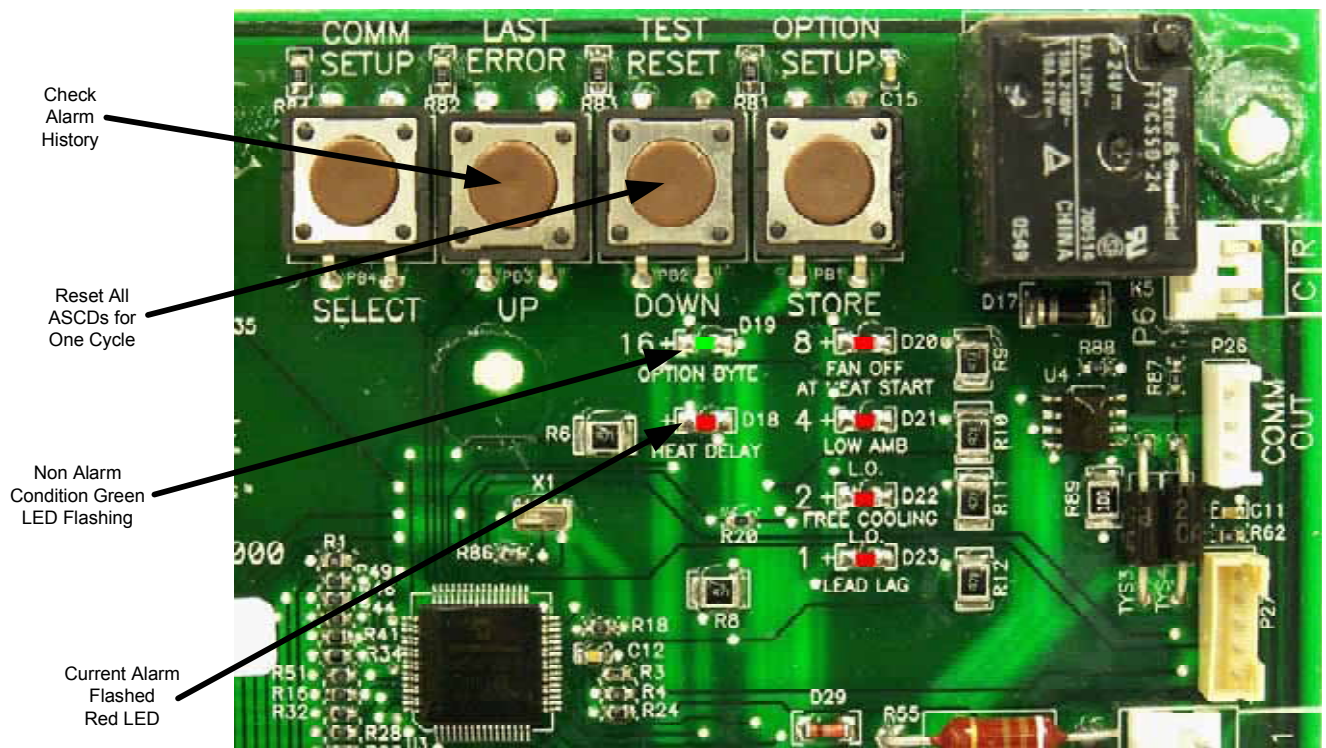

FIGURE 25: UNIT CONTROL BOARD
Alarm condition codes are flashed on the UCB lower left Red LED, See Figure 25. While the alarm code is being flashed, it will also be shown by the other LEDs: lit continuously while the alarm is being flashed. The total of the continuously lit LEDs equates to the number of flashes, and is shown in the table. Pressing and releasing the LAST ERROR button on the UCB can check the alarm history. The UCB will cycle through the last five (5) alarms, most recent to oldest, separating each alarm flash code by approximately 2 seconds. In all cases, a flashing Green LED will be used to indicate non-alarm condition.